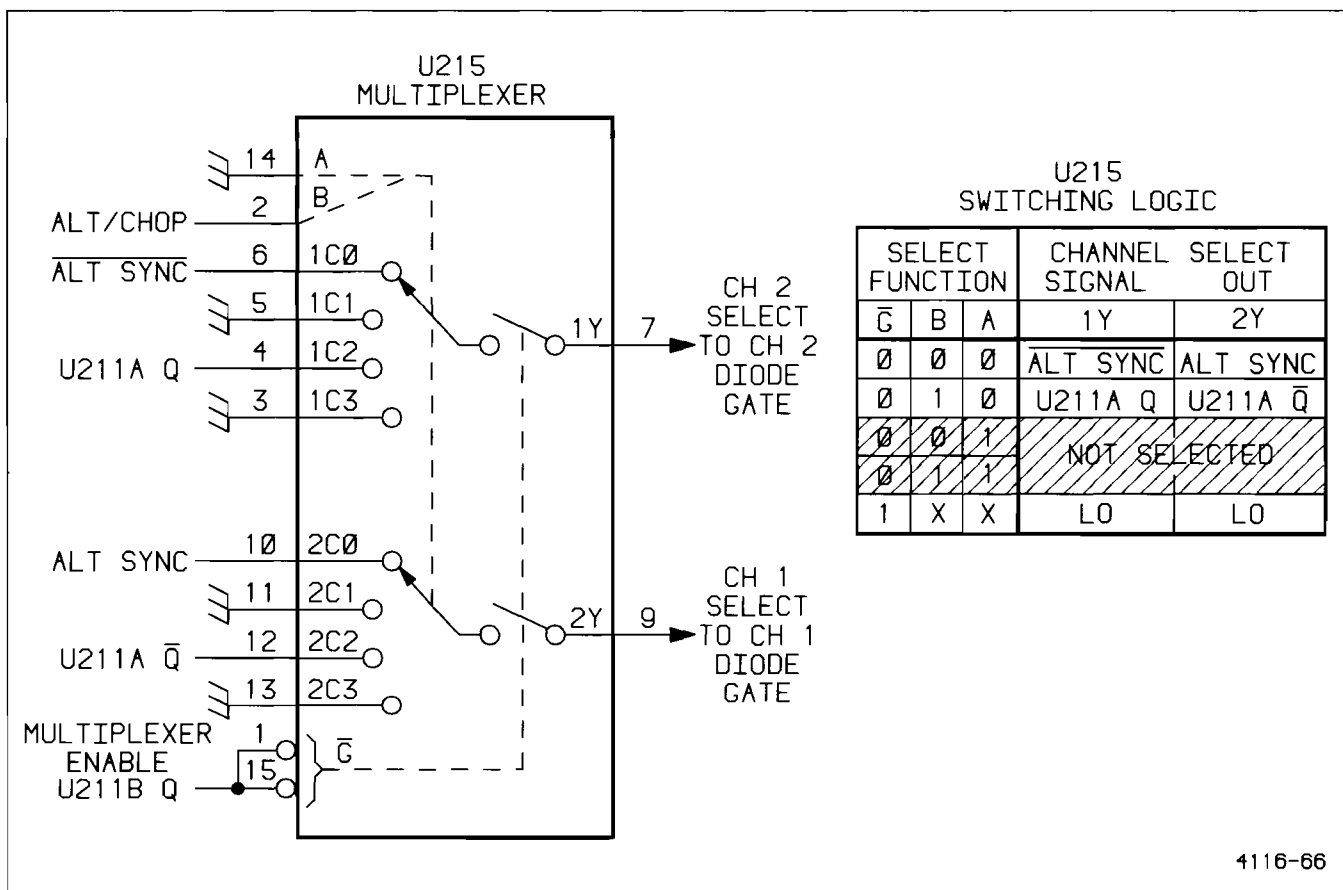

Figure 3-5. Simplified illustration of Multiplexer U215 switching operation.
The A and B select inputs of U215 determine the input pins that are switched to the output pins (see Figure 3-5). Input A is a permanent LO, and the B input is controlled by the ALT and CHOP VERTICAL MODE switches. When CH 1 VERTICAL MODE is selected, the U215 B input (pin 2) will be held HI through pull-up resistor R215. With the A input LO and the B input HI, the 1C2 input (from the Q output of U211A) will be connected to the 1Y output (CH 2 Select), and the 2C2 input (from the \bar{Q} output of U211A) will be connected to the 2Y output (CH 1 Select).
3. A LO is placed on the Set input of U211B, causing pin 9 (Q output) to go HI. This action disables both outputs of Multiplexer U215, and both channel-select signals become LO (see Figure 3-5). The Channel 1 and Channel 2 Diode Gates are biased off by the LO signals to prevent either channel signal from passing to the Delay Line Driver.